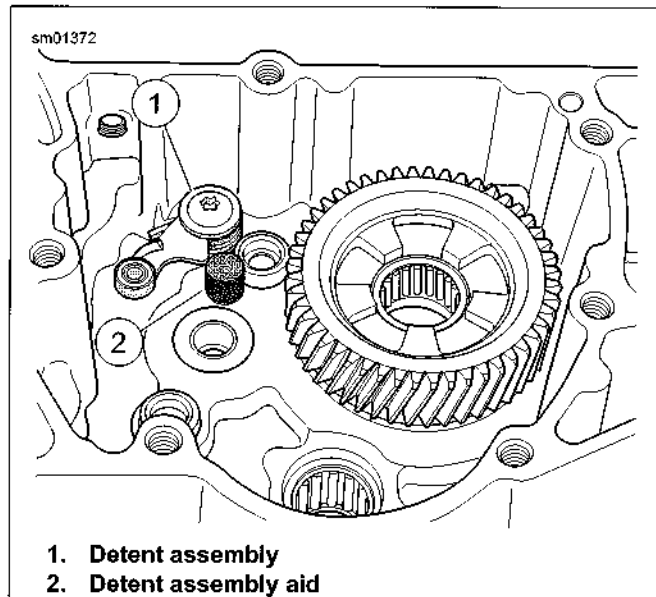

Figure 5-68. Using Gear Detent Assembly Aid (Part No. B-45520)
- See Figure 5-68. Retract detent assembly in right case half and thread GEAR DETENT ASSEMBLY AID (Part No. B-45520) into neutral switch hole until it has bottomed in right case half.